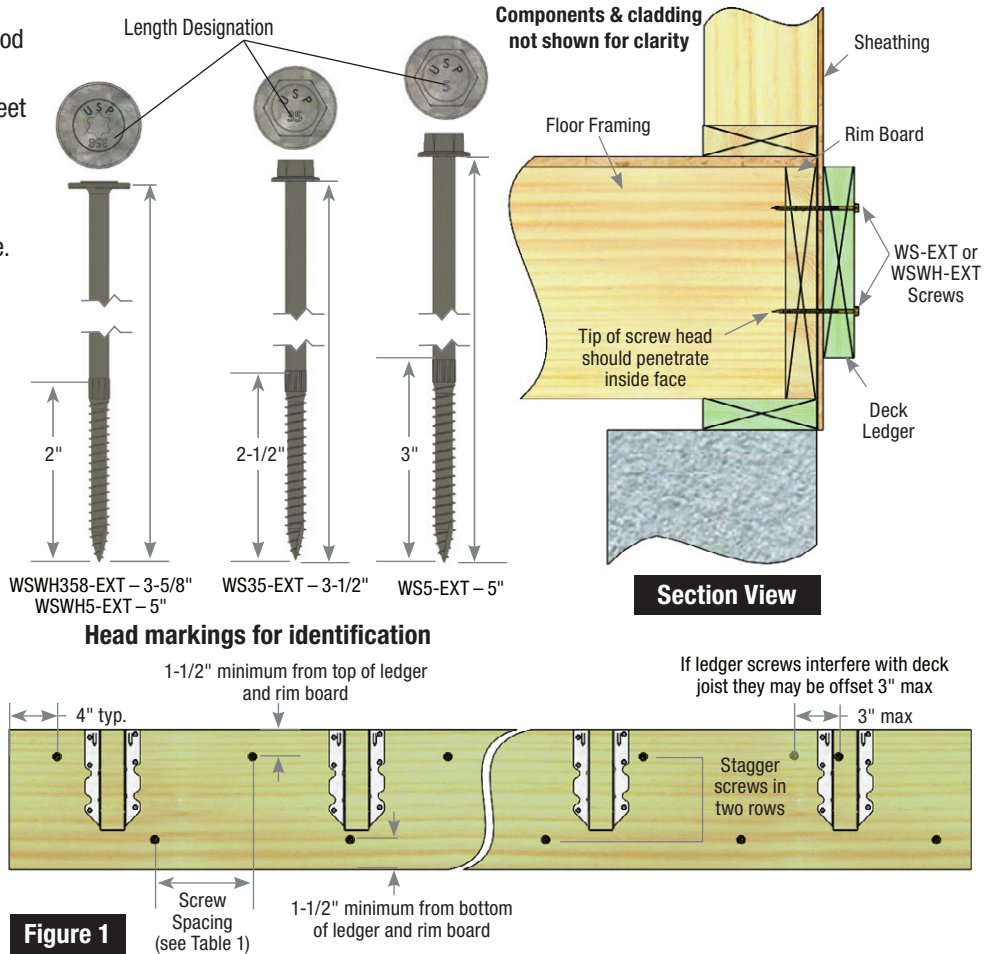

Figure 1
4. Repeat these steps and install the appropriate number of screws at the prescribed edge, end distance, and spacing as called out in **Table 1** and **Figure 1**.